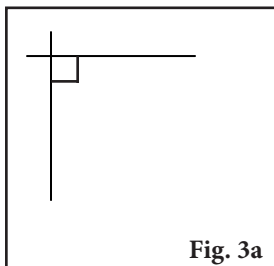
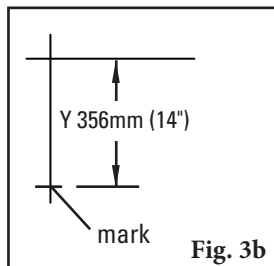
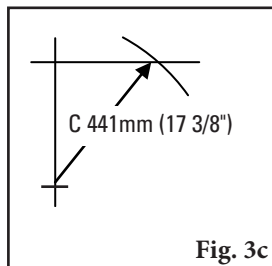
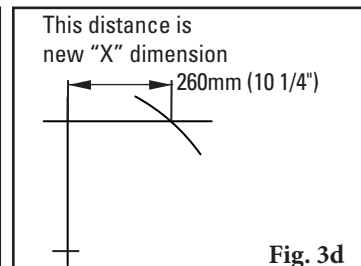

Fig. 3a
Fig. 3b
Fig. 3c
Fig. 3d
- 3. Determine final dimension.** On a flat vertical surface, using a level, draw one horizontal line and one vertical line creating a right triangle (Fig. 3a). Measure down from the intersection the determined “Y” dimension and mark (Fig. 3b). With the tape measure starting at the modified “Y” mark, swing the tape across the “X” line and mark at the “C” dimension where it crosses the “X” line (Fig. 3c). Measure from the intersection to the “C” intersection and this will be your new “X” dimension (Fig. 3d).